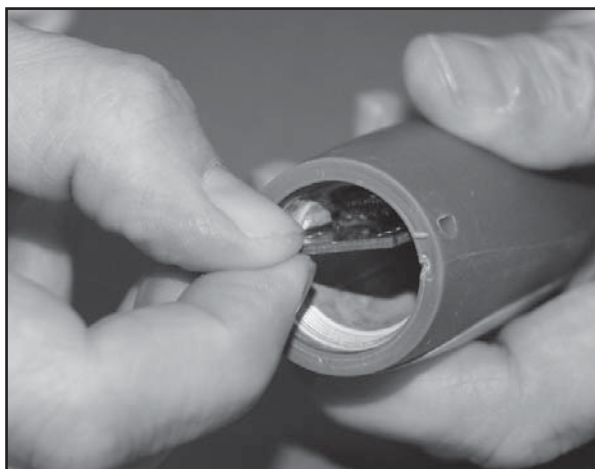

FIGURE 6.24
4. Pull the PC Board from the Applicator housing. **Refer to Figure 6.24.**